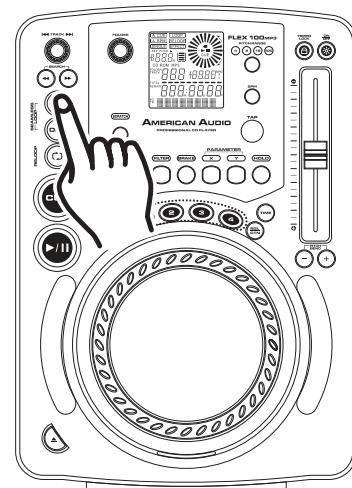

Figure 14
A cue point is the exact point playback will begin when the PLAY/PAUSE BUTTON (18) is pressed. You may set your cue points anywhere on a disc or in a track. You may set up to four independent cue points per disc. Four cue points are stored in the BANK BUTTONS 1-4 (13). There are two (2) ways to set and create a CUE point as detailed in figures 14 and 15.